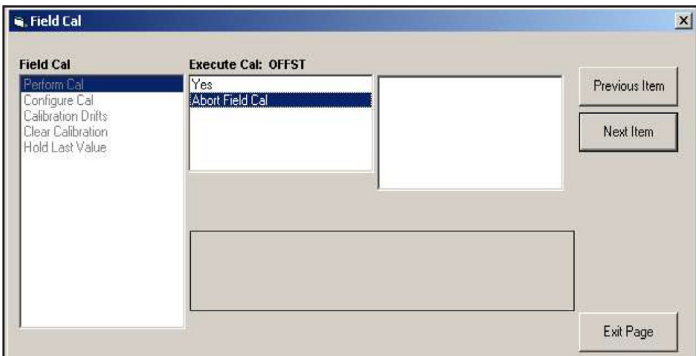

Figure 86: Perform cal option in the field cal menu
- a. Highlight and double-click on the desired option in the left pane. *Figure 86* below shows the first entry (*Perform Cal*) in the *Field Cal* option. The title above the center pane lists the current entry, while the center pane displays the available selections for that entry.